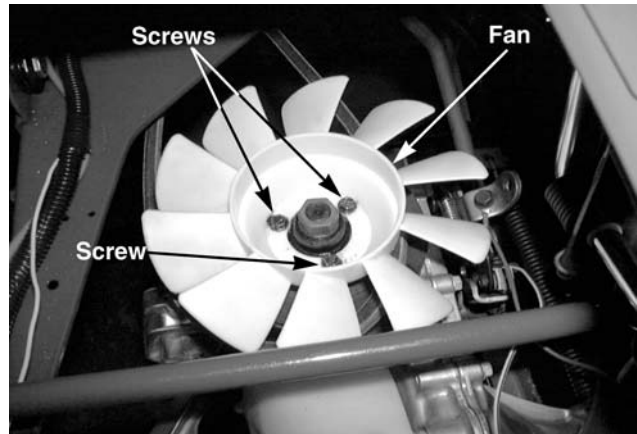

Figure 9-49
9. Remove the hydrostatic fan. See figure 9-49.